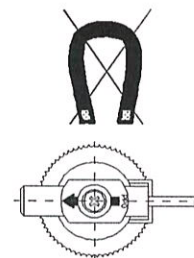

Fig.2
- Make sure that there are no magnetic fields close to the flow switch. Such fields can affect the proper function of the instrument (fig. 2).
- There is an arrow on the flow switch. Make absolutely sure that this arrow is parallel with the pipe axis and points into flow direction (fig.2).